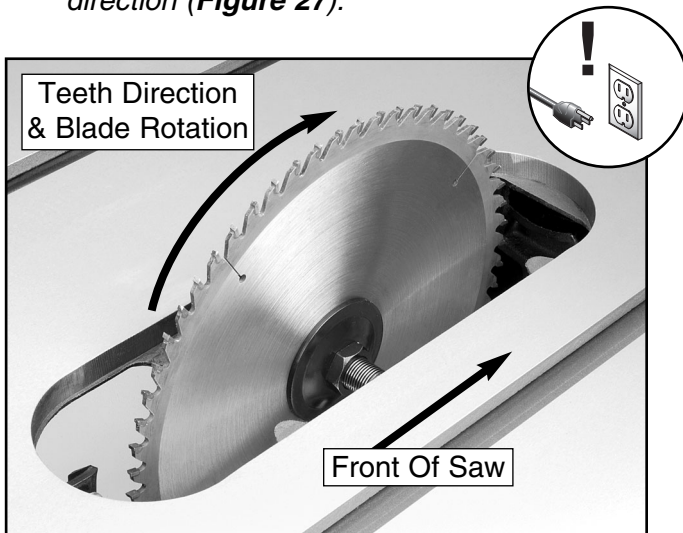

Figure 27. Correct blade direction.
3. Slide the blade over the arbor. Note—*Make sure the teeth are pointing in the correct direction (Figure 27).*